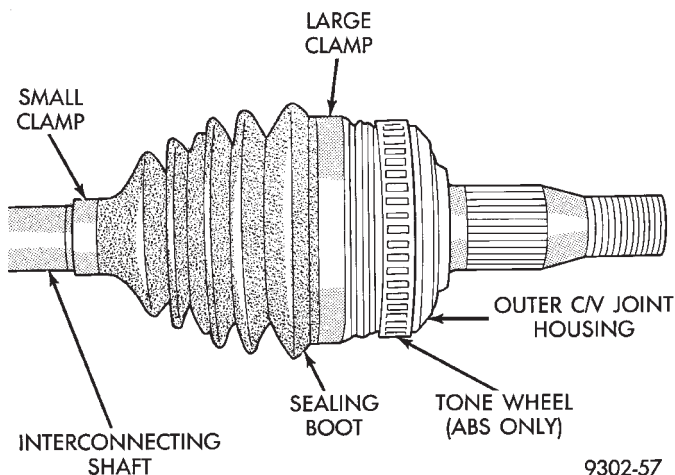

Fig. 1 Outer C/V Joint Sealing Boot Clamps
(1) Remove the driveshaft requiring boot replacement from the vehicle. See Servicing Driveshaft in this section of the service manual for the required drive shaft removal procedure.
(2) Remove large boot clamp, which retains C/V joint sealing boot, to C/V joint housing (Fig. 1) and discard. Then remove small clamp which retains outer C/V joint sealing boot to interconnecting shaft